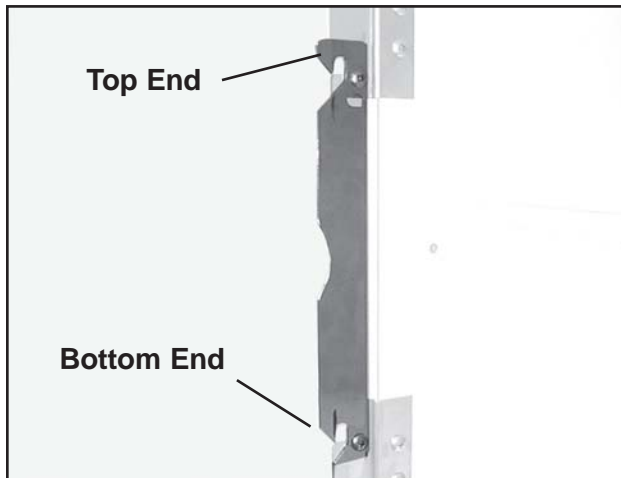

Figure 30. Latch Connector Correctly Oriented
Note: The latch connector is not symmetrical - the ends are different (Figure 30).
12. Remount the latch connector to the latch connector brackets oriented as shown in Figure 30. Leave the screws/nuts slightly loose so that the latch connector is free to move up and down to latch and unlatch properly.